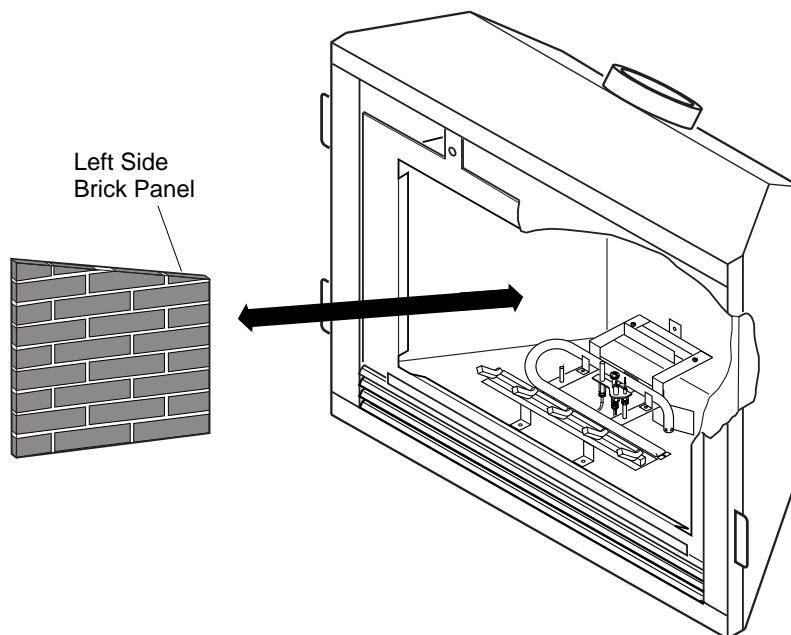

Figure 43 - Installing Left Side Brick Panel
3. Install left side brick panel first by sliding it between the grate and the side of the firebox (see Figure 43).